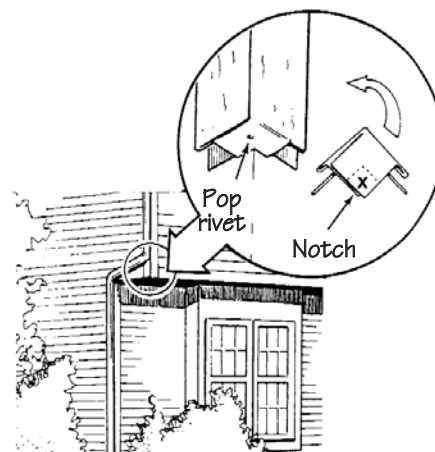

Figure 81.
- Drill a 1/8" hole in the center, through both layers of vinyl, and install a pop rivet to hold them in place. Cut a notch in both layers to allow clearance for the corner (Fig. 81).